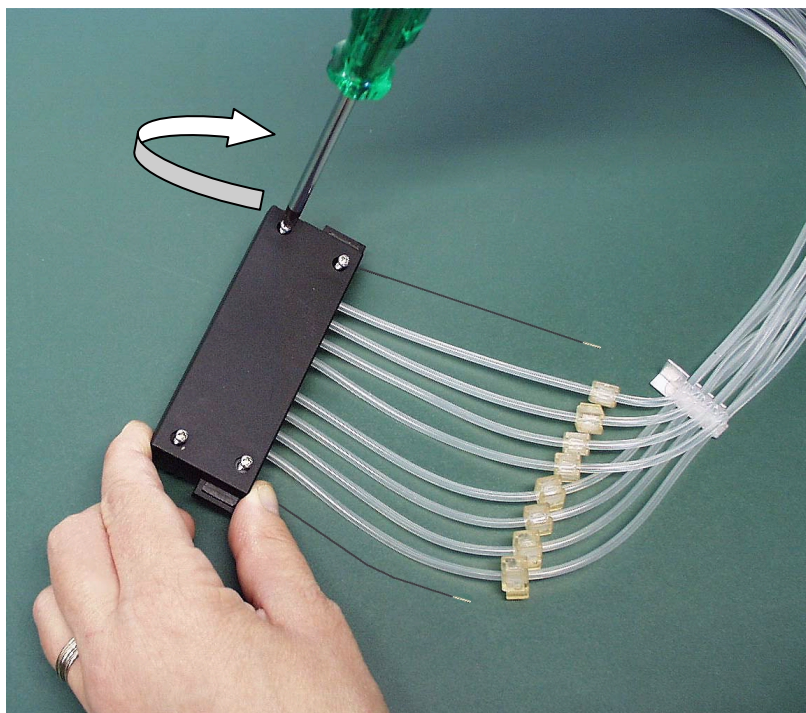

Fig. 7.20 Replacing the lower part cover of the dispensing cassette
5. Fasten the four cover retaining screws of the lower part of the dispensing cassette (*Fig. 7.20*).